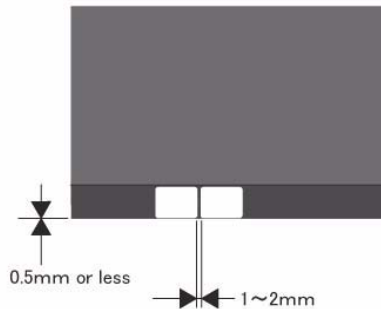

Figure 2 Paste the new TR0 Seal
9. Paste the new TR0 Seal at approx. 1mm to 2mm beside the old TR0 Seal and less than 0.5mm away from the edge of the Transfer Belt. (Figure 2)